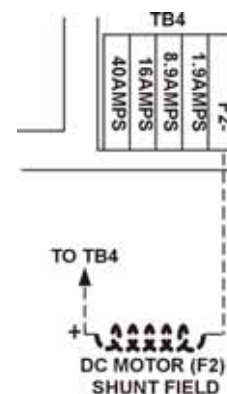

Figure 3-7
- 3) The third circuit is to bring power to the Motor Fields. These 2 wires can be run with the motor wires. Verify Dipswitches are set for proper Motor Field Current. [See Wiring Diagrams and Figure 3-7.]